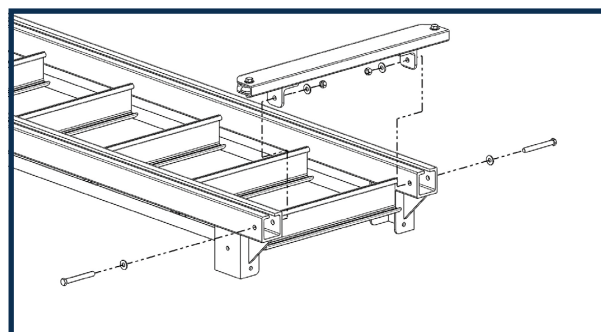

FIGURE 6
- Rotate lower roller bracket assembly on ladder and align mounting holes. Attach using hardware provided in Kit #3 to complete lower roller bracket assembly. See Figure 6.